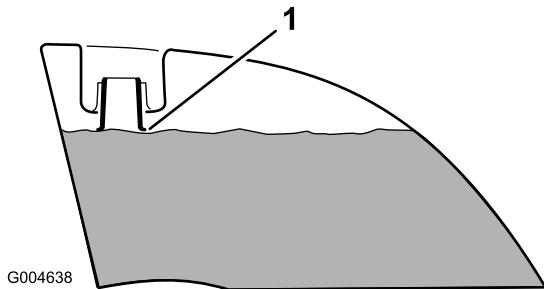

Figure 40
- Add fuel to both fuel tanks, until the level is even with the bottom of the filler neck (Figure 40). **Do not overfill the fuel tanks.**